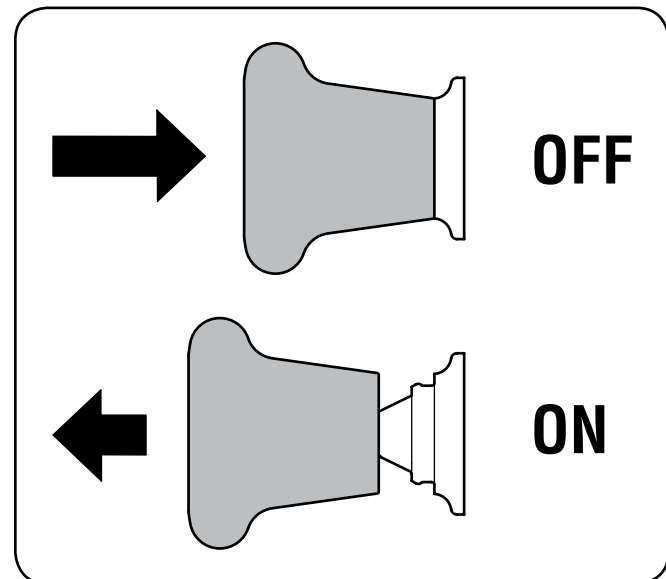

Figure 13
2. Pull the PTO switch up/out into the engaged (ON) position. See "Figure 13".